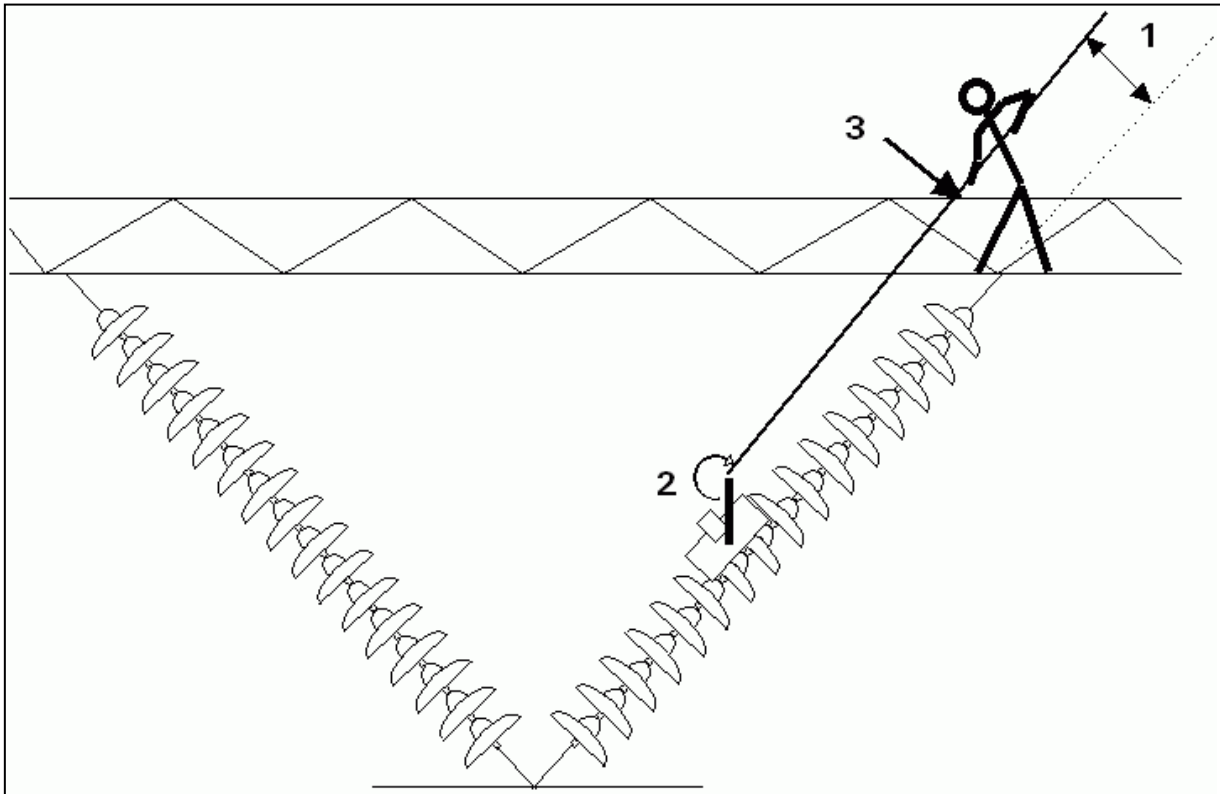

Figure 24
1. To facilitate the manipulation, the hot stick should be almost parallel to the string of insulators, per Figure 24.